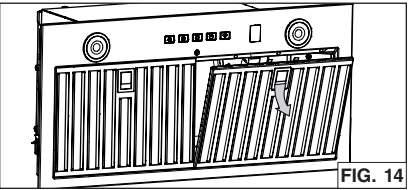

FIG. 14
2. Remove the hybrid baffle filters by pushing down on latch tab and tilting the filters downward (FIG. 14). Set aside the filters.